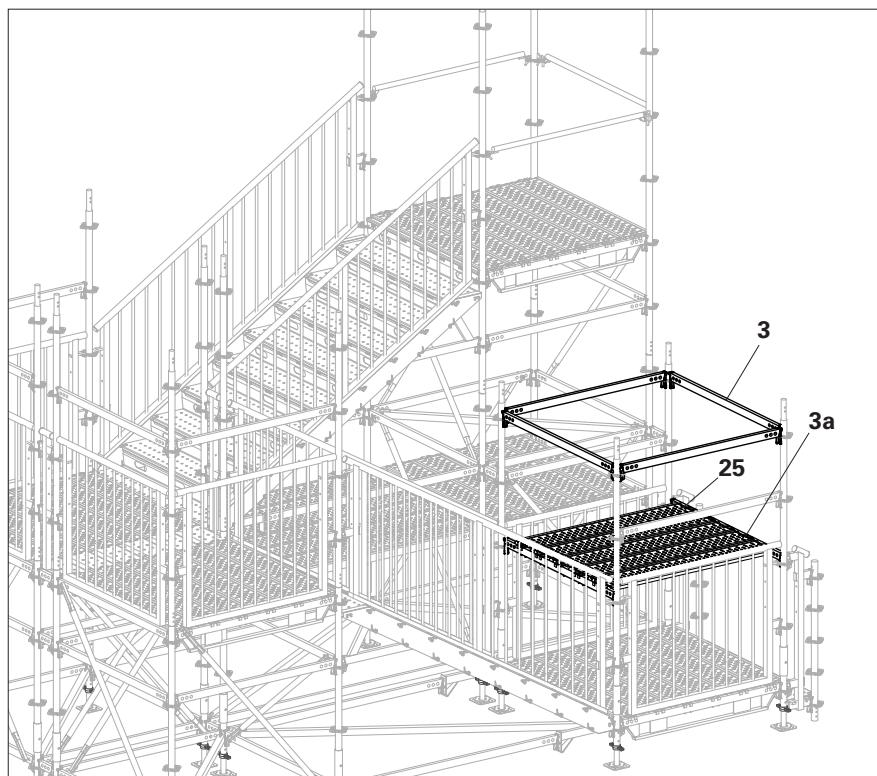

Fig. B3.06
3. Fit five temporary Steel Decks UDG-2 25x150 (**25**) approximately in the centre. (Fig. B3.06)